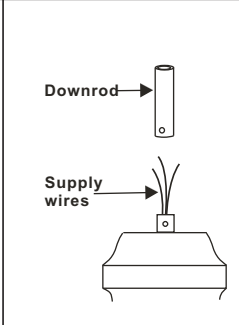

Figure 8
4. Carefully feed fan wires up through the downrod. (Figure 8) Thread the rod into the coupling. Next, line up holes and replace lock pin and hitch pin. Tighten set screws.